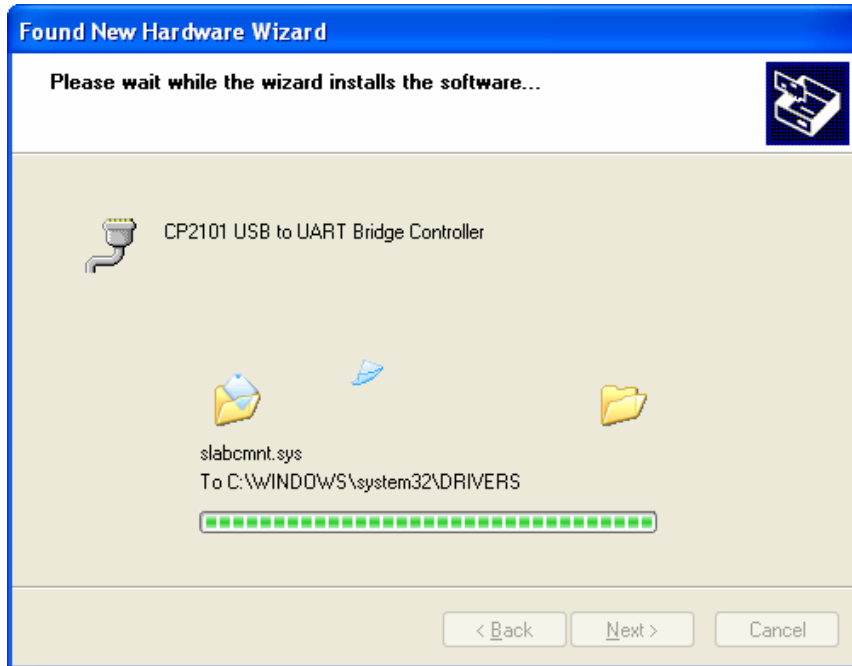
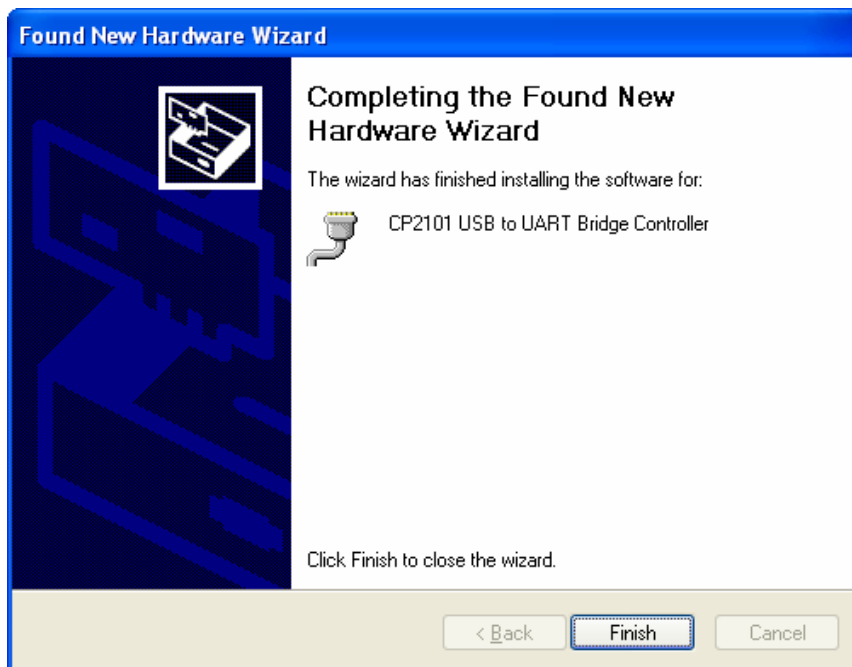

Figure 22
Figure 23
11. Upon selecting Next, the Found New Hardware wizard will continue with the installation of the remaining drivers for the US (Ascension) USB Interface Box (Figure 22). Upon completion of the driver installation, the window will update similar to the one shown in Figure 23. The window in Figure 23 informs the user that the driver installation was successful and that the Finish pushbutton should be pressed to complete the Found New Hardware Wizard Installation. At this time, select Finish to complete the US (Ascension) USB Interface Box installation.